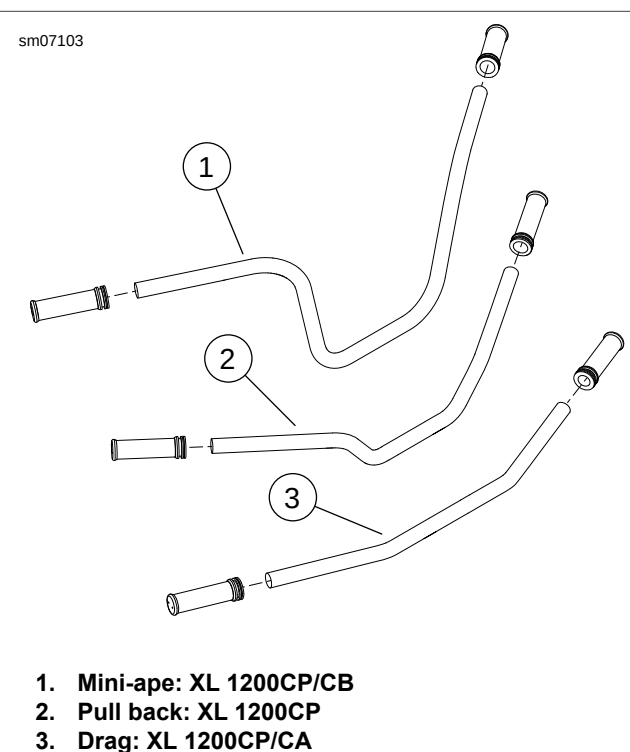

Figure 2-187. Handlebars: XL 1200CP/CA/CB
**Drag Bar:** See Figure 2-187. See **Removal, XL 1200C/C ANV**.
**Mini-Ape:** See Figure 2-187. See **Removal, All XL Models except XL 1200C/C ANV**.
**Pull Back:** See Figure 2-187. See Installation, XL 1200C/C ANV.